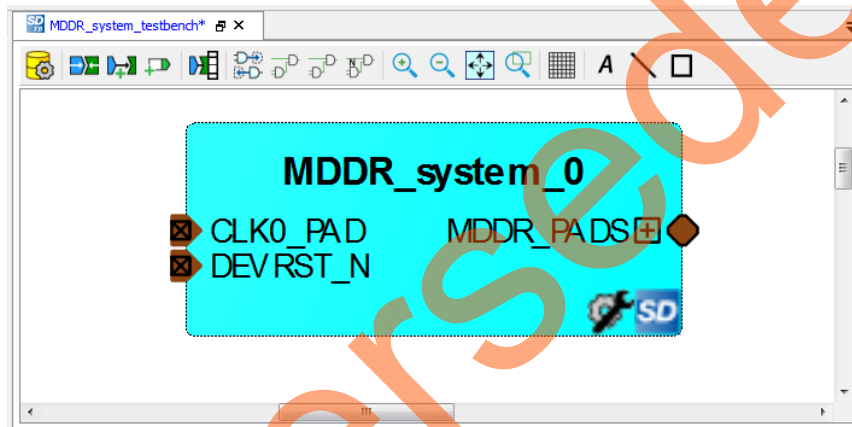

Figure 18. SmartDesign Testbench Canvas
5. The SmartDesign canvas is displayed with the **MDDR_system_top_0** component instantiated, as shown in Figure 18.